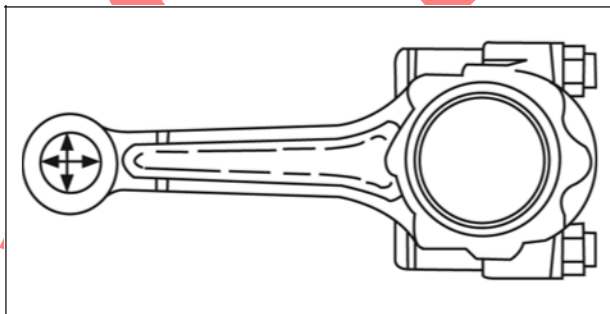

Figure 7
2. Check piston pin bearing (Figure 7).